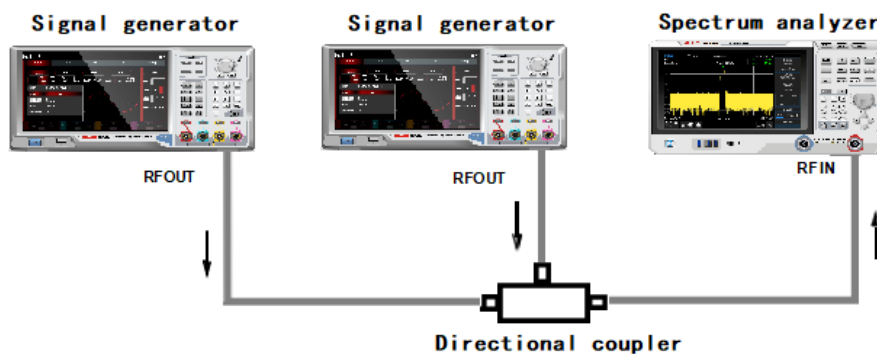

Figure 3-4: Instrument Setting for Acquire Two Channel's Signal
1. As shown in Figure 3-4, connect two signal sources to RF IN port via directional coupler.
- As shown in Figure 3-4, connect two signal sources to input port of the spectrum analyzer.